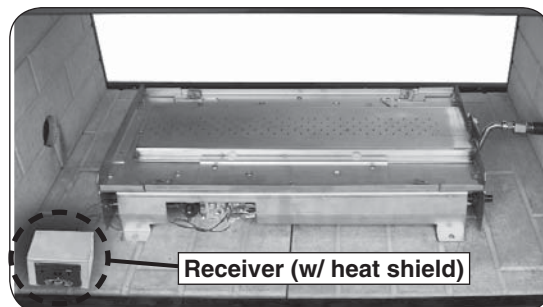

Fig. 15-4 Place remote receiver
3. **Route the wires into the burner and out of the left side, then place the remote receiver (with metal heat shield) at the front left corner of the fireplace. Place as far from the burner system as possible.** See Fig. 15-4.